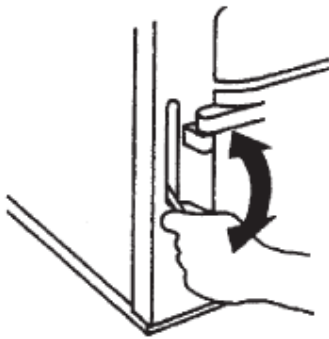
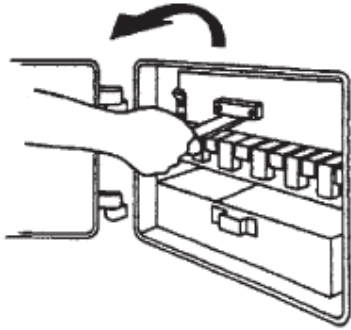

Fig. 8
Fig. 10
- d) De-ash (Fig. 8) and remove dead fuel from bottomgrate (lift off clinker door above the bottomgrate (Fig. 10), rake fuel into ashpan replace clinker door).
- d) De-ash (Fig. 8) and remove clinker door (Fig. 10). Insert flat bayonet type gas poker on top of bottomgrate bars.
To de-ash, riddle the grate by agitating the riddling handle in an up and down manner 10-20 times to free the grate of ash. See Fig. 8.
Allow the fire to burn out and then open the ashpit door. Lift off the clinker door (See Fig. 10) and insert a hooked poker to draw out any offending accumulation. Replace clinker door after use.